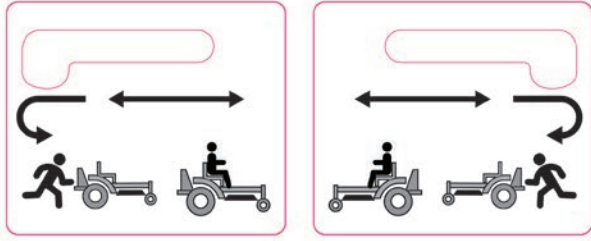

Figure 7
**Drive Wheel Neutral Lever:** Located on both sides of the rear of the frame (see Figure 7). The Neutral Lever is used to control the relief valve of the hydrostatic transaxle. It releases the oil pressure, allowing the machine to be pushed without the engine running.